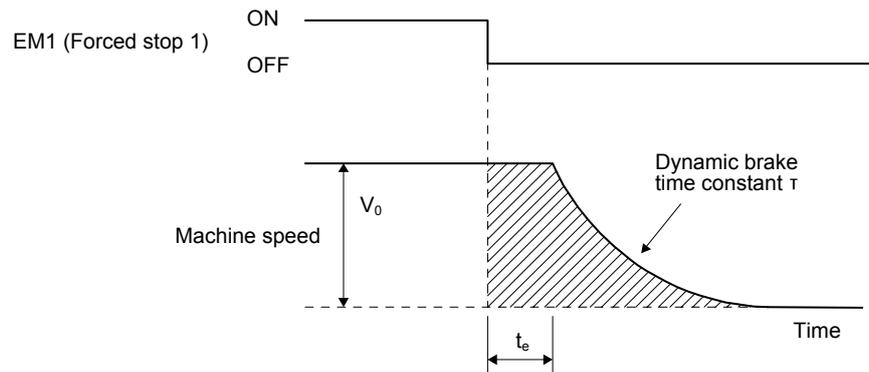

Fig. 8.3 Dynamic brake operation diagram
(1) Calculation of coasting distance
Fig. 8.3 shows the pattern in which the servo motor comes to a stop when the dynamic brake is operated. Use equation 8.2 to calculate an approximate coasting distance to a stop. The dynamic brake time constant τ varies with the servo motor and machine operation speeds. (Refer to (2) of this section.) A working part generally has a friction force. Therefore, actual coasting distance will be shorter than a maximum coasting distance calculated with the following equation.